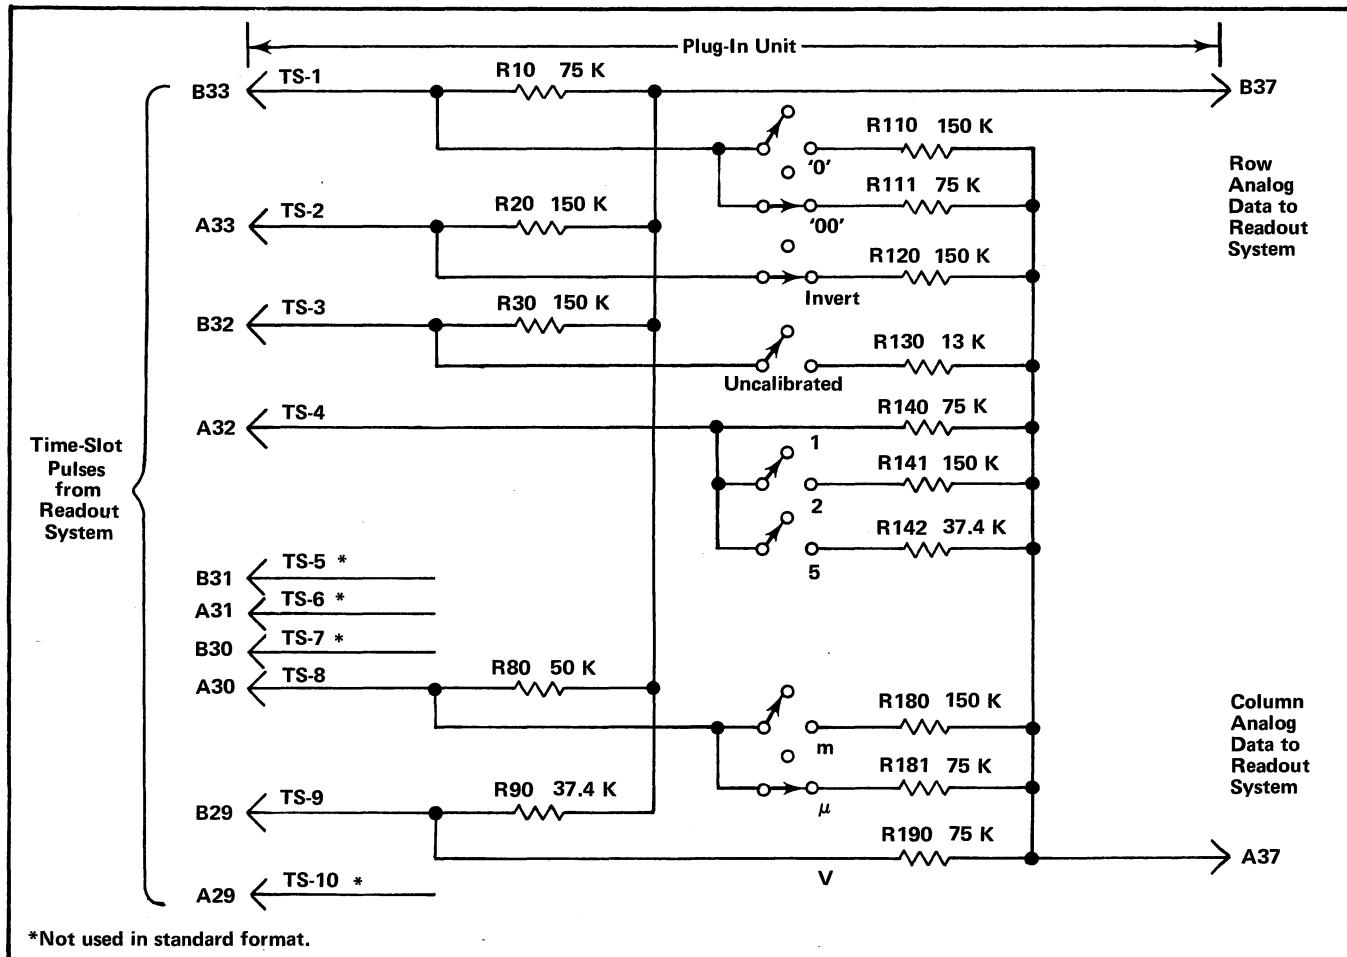

Fig. 3-44. Typical encoding scheme for voltage-sensing amplifier plug-in unit. Coding shown for deflection factor of 100 microvolts.
Data is conveyed from the plug-in unit to the Readout System in the form of an analog code having up to 11 current levels (from zero to one milliamper in 100 microampere steps). The characters which can be selected by the encoded data are shown on the Character Selection Matrix (see Fig. 3-37). Each character requires two currents to define it, these currents are identified as the column current and the row current which correspond to the column and row of the matrix. The column and row data is encoded by resistive programming in the plug-in units. Figure 3-44 shows a typical encoding scheme for a voltage-sensing amplifier plug-in unit. Notice that the 10 time-slot (TS) pulses produced by the Time-Slot Counter stage are connected to the plug-in unit. However, time-slots 5, 6, 7, and 10 are not used by the plug-in unit to encode data when using the Standard Readout Format (see Table 3-2 for Standard Readout Format). The amplitude of the time-slot pulses is exactly -15 volts as determined by the Timer stage. Therefore, the resultant output current from the plug-in units can be accurately controlled by the programming resistors in the plug-in units.
For example, in Fig. 3-44 resistors R10 through R90 control the row analog data which is connected back to the Readout System. These resistors are of fixed value and define the format in which the information will be presented by the Readout System. Fig. 3-45A shows an idealized output current waveform of row analog data which results from the 10 time-slot pulses. Each of the steps of current shown in these waveforms corresponds to 100 microamperes of current. The row numbers on the
The Column analog data is defined by resistors R110 through R190. The program resistors are connected to the time-slot lines by switch closures to encode the desired data. The data as encoded by the circuit shown in Fig. 3-44 indicates a 100 microvolt sensitivity with the display inverted and calibrated vertical deflection factors. This results in the idealized output current waveforms shown in Fig. 3-45B at the column analog data output, terminal A37 of the plug-in interface. Resistor R111, connected between time-slot 1 and the column analog data output, encodes two units of current during time-slot 1. Referring to the Character Selection Matrix, two units of column current along with the two units of row current encoded by R10 (row 3) indicates that two zeros should be added to the display. Resistor R120 adds one unit of column current during time-slot 2 and along with the one unit of current from the row output, the Readout System is instructed to add an invert arrow to the display. R130 is not connected
The column analog data encoded by the plug-in can be modified by attenuator probes connected to the input connectors of vertical plug-in units. A special coding ring around the input connector of the plug-in unit senses the attenuation ratio of the probe (with readout-coded probes only). The probe contains a resistor which results in additional column current. For example, if a 10X attenuator probe is connected to a plug-in with the coding for 100 microvolts as shown in Fig. 3-44, an additional unit of
current is added to the column analog data during time-slot 1. Since two units of current were encoded by R111 (see Fig. 3-44), this additional current results in a total of three units of column analog current during this time-slot. Referring to the Character Selection Matrix, three units of column current along with the two units of row current encoded by R10 indicates that the prefix should be reduced. Since this instruction occurs in the same time-slot which previously indicated that two zeros should be added to the display and only one instruction can be encoded during a time-slot, the zeros do not appear in the display. The CRT readout will now be reduced to 1 mV (readout program produced by plug-in same as for previous example).
Finally, memory C is interrogated during time-slot 8 to obtain information on whether the prefix should be reduced or left at the value which was encoded. If data has been encoded which calls for a reduction in prefix, a negative-going output level is produced at pin 7. This negative level subtracts one unit of column current from the data at the input to the Column Decoder stage. Notice on the Character Selection Matrix of Fig. 3-37 that a reduction of one column when row 4 is programmed results in a one unit reduction of the prefix. For example, with the 100  $\mu$ V program shown in Fig. 3-44, if the data received from the plug-in called for a reduction in prefix, the CRT readout would be changed to 1 mV (zeros deleted by program; see Encoding the Data).